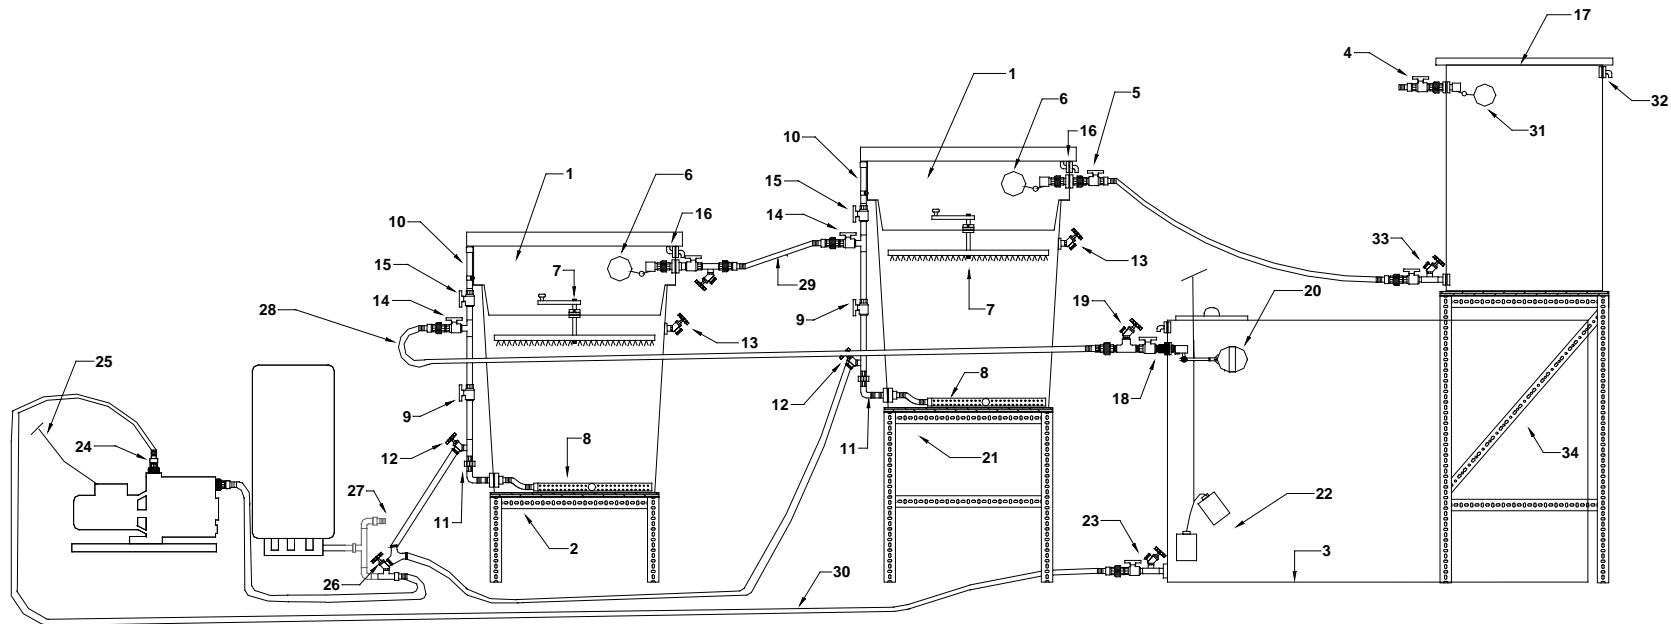

Figure 1 - Automated System Layout - Primary and Secondary Filter
- Refer to Figure 1 to find the locations for all system components.
Step 1. Position the primary filter stand as shown in figure 1. Place the primary filter on the stand.
Step 2. Position the secondary filter stand as shown in figure 1. Place the secondary filter on the stand.